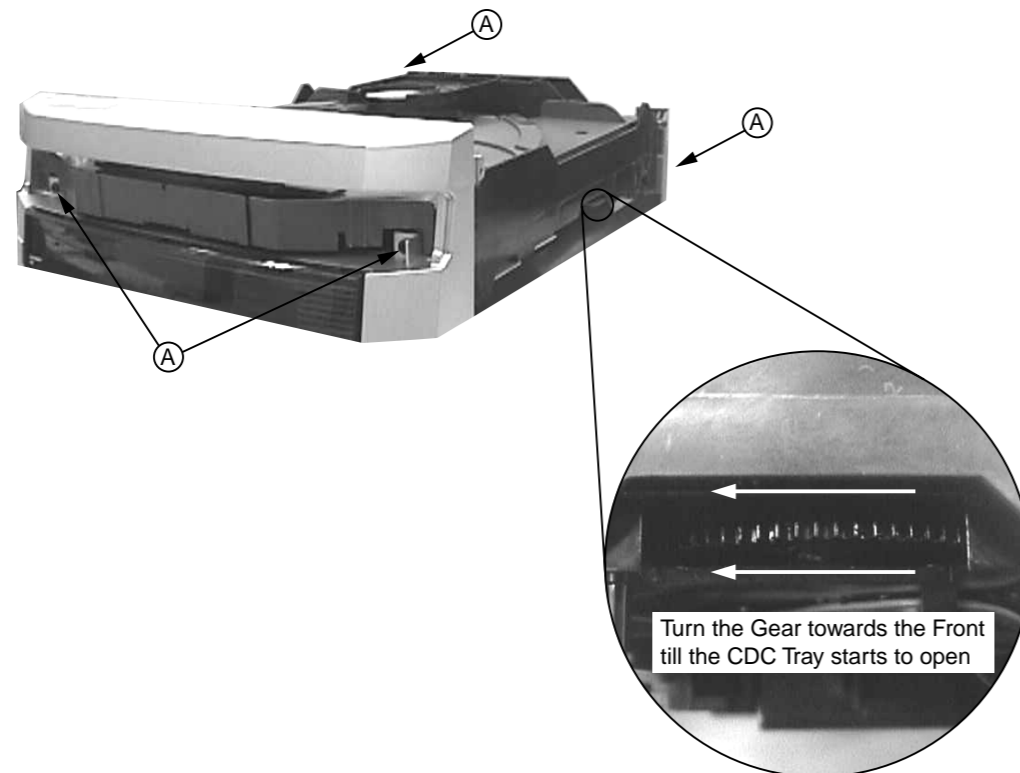

Figure 3
- 1) Loosen the 4 screws, slide Cover top (pos 30) towards the rear and remove it upwards.
- 2) Loosen 3 screws slide the Panel right (pos 26) towards the rear and remove it outwards. Do likewise for the Panel left (pos 27).
- 3) Push the gear slowly towards the front as shown in figure 3 until the CDC tray starts to move out of the Front Cabinet (pos 8). The CDC tray is now disengage and can be pulled out completely.
- 5) Loosen 4 screws A to remove the CDC Module (pos 28) as shown in figure 3.